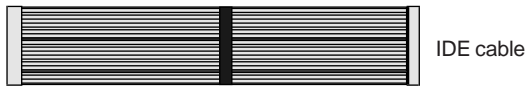

Figure 1-1
- ☐ One 40-pin IDE connector ribbon cable (Figure 1-1)